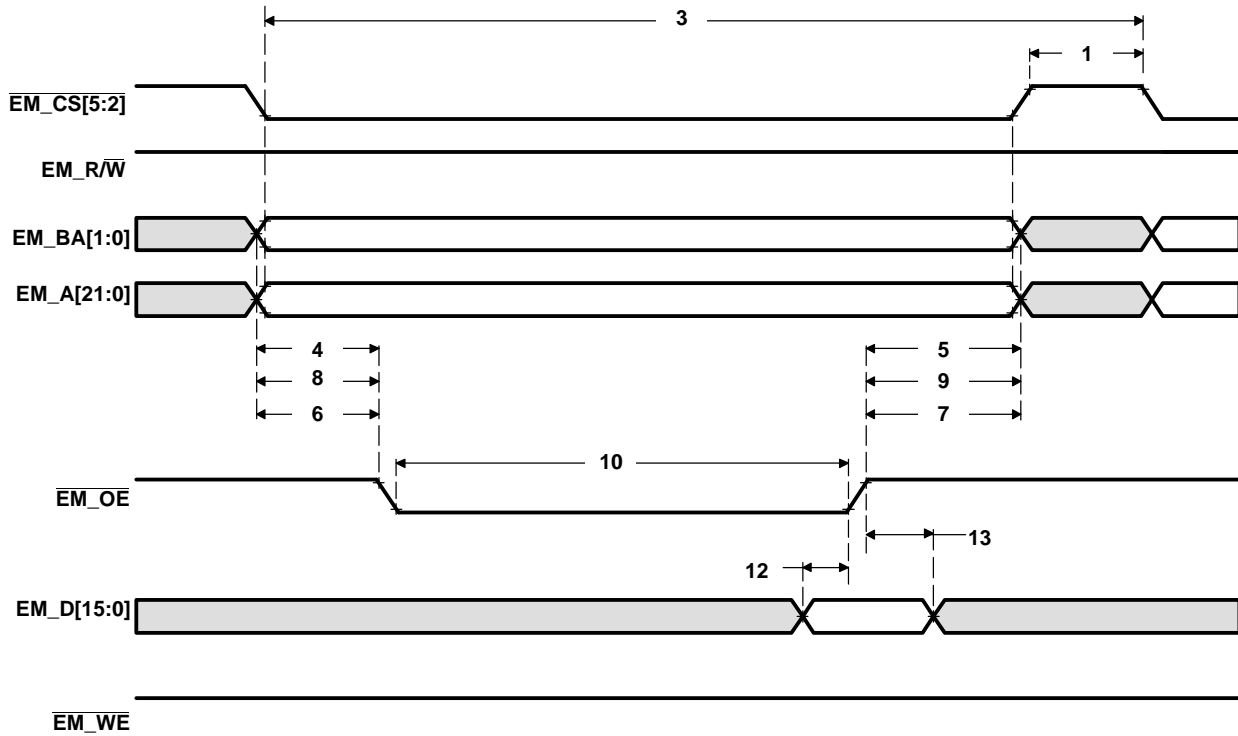
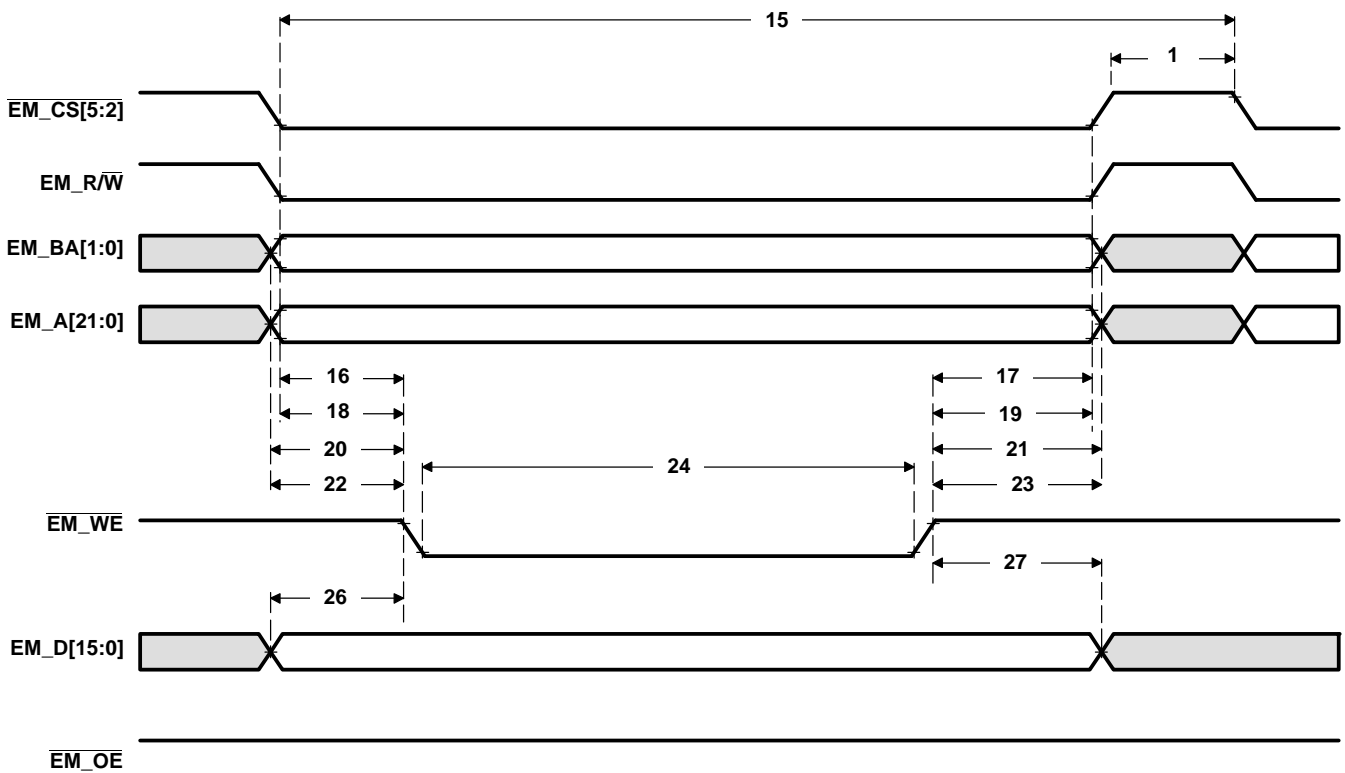

Figure 5-17. Asynchronous Memory Read Timing for EMIF
Figure 5-18. Asynchronous Memory Write Timing for EMIF
(see Figure 5-17 and Figure 5-18)
Table 5-31. Switching Characteristics Over Recommended Operating Conditions for Asynchronous Memory Cycles for EMIFA Module(1)(2) (see Figure 5-17 and Figure 5-18)
- (1) RS = Read setup, RST = Read STrobe, RH = Read Hold, WS = Write Setup, WST = Write STrobe, WH = Write Hold, TA = Turn Around, EW = Extend Wait mode, SS = Select Strobe mode. These parameters are programmed via the Asynchronous Bank and Asynchronous Wait Cycle Configuration Registers.
(2) E = 6 x DSP period in ns for EMIFA. For example, when running the DSP CPU at 594 MHz, use E = 10.1 ns.
**Table 5-31. Switching Characteristics Over Recommended Operating Conditions for Asynchronous Memory Cycles for EMIFA Module (see Figure 5-17 and Figure 5-18) (continued)**